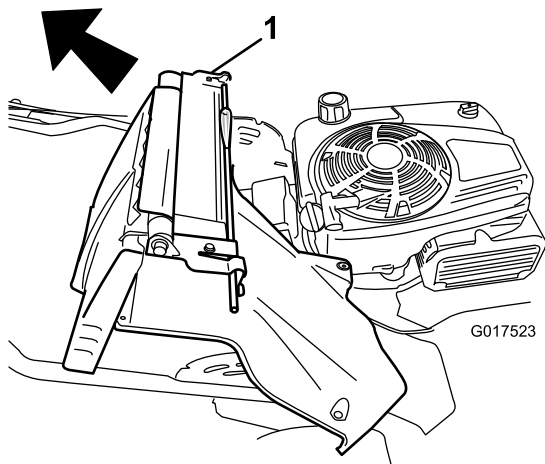

Figure 35
7. Remove the rear door and handle-lock lever assembly (Figure 35).